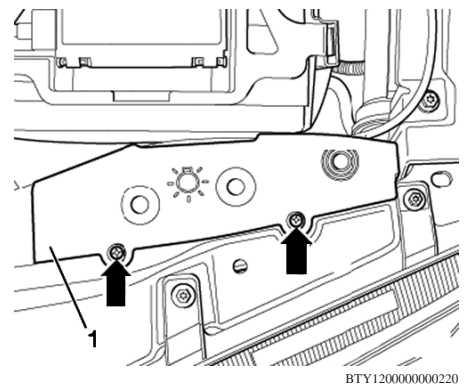

Fig. 5 Battery cover removal
13. Remove screws (arrows) and remove cover (1), **Fig. 5**.
13. Install cover (1) with screws (arrows), **Fig. 5**.
11. Remove screws (arrows) and remove cover (1), **Fig. 5**.
10. Install cover (1) with screws (arrows), **Fig. 5**.